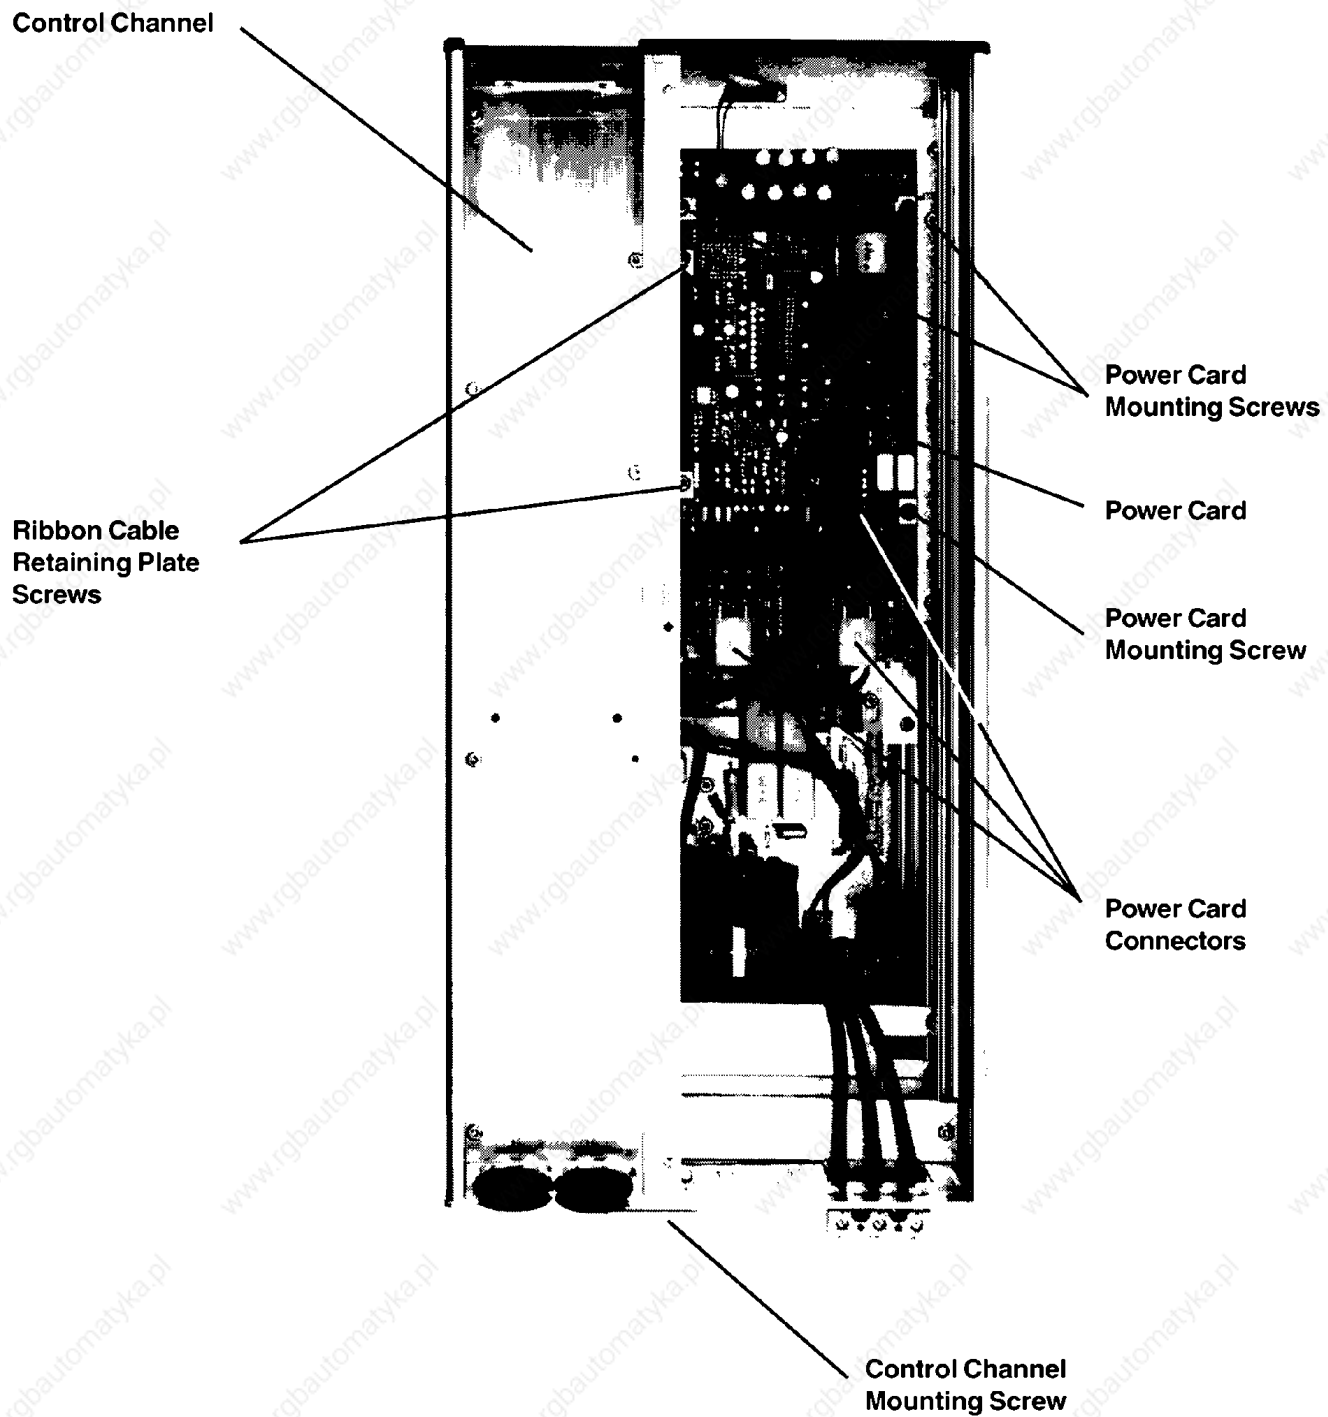

Figure 10: Control Channel Assembly Removal
5. Note correct location of each connector on power card to ensure proper reinstallation (see Figure 10). Unplug five (5) connectors (or 6 with brake) from power card.
6. Remove three (3) mounting screws and two (2) ribbon cable retaining plate standoffs from power card. Remove power card.